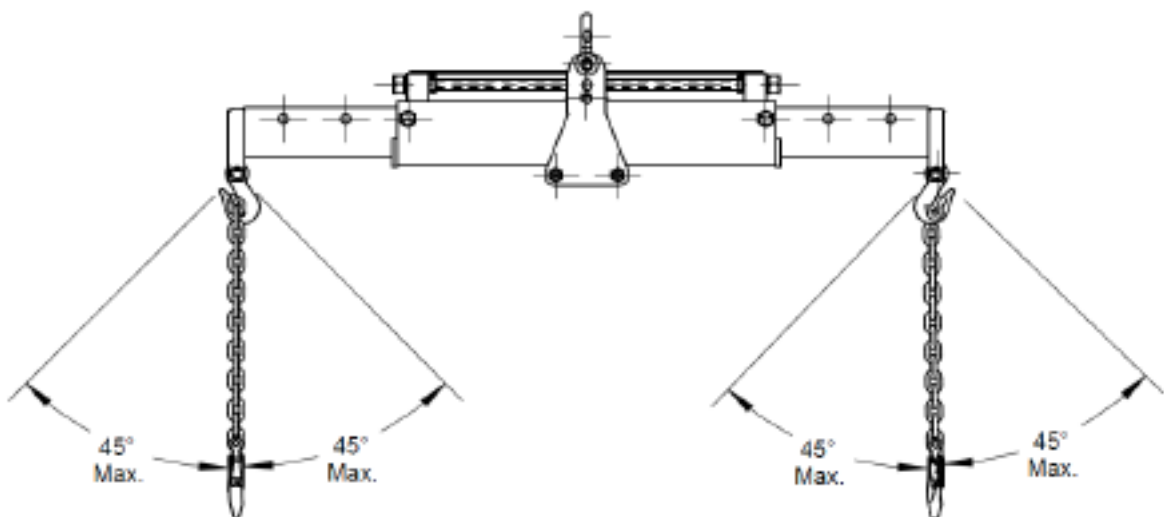

Figure 3
- **DO NOT** spread the Grade 100 Chains more than a total of 90 degrees for both chains. See Figure 3.